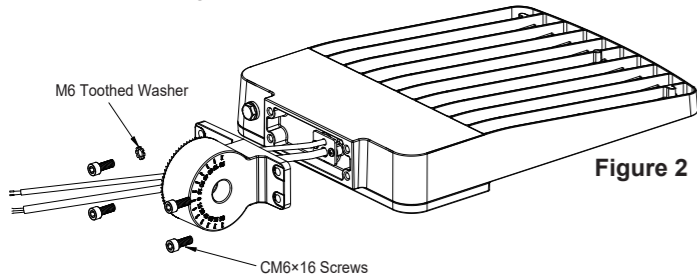

Figure 2
2. Feed Luminaire cord through SP upper bracket and secure the bracket to the Luminaire with 4pcs CM6x16 screws and 1pc M6 toothed washer, Figure 2.